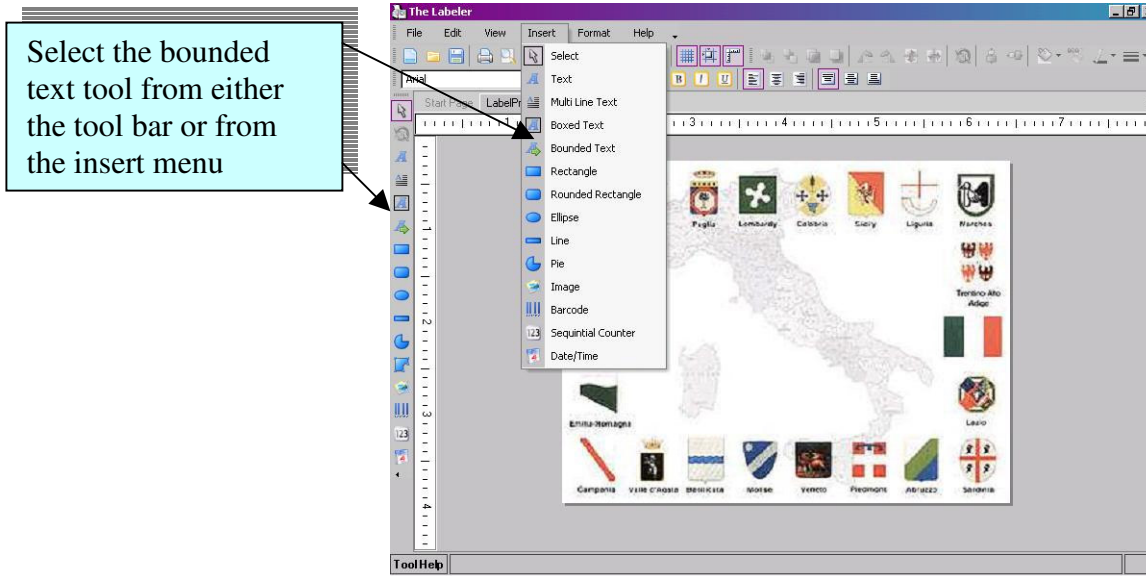

Figure 3.4.4.1: Inserting Bounded Text
1. Click on the bounded text tool  located on the tool bar, or you can find it in the insert menu (see Figure 3.4.4.1).
- Click on the label where you want to insert the text (see Figure 3.4.4.2).